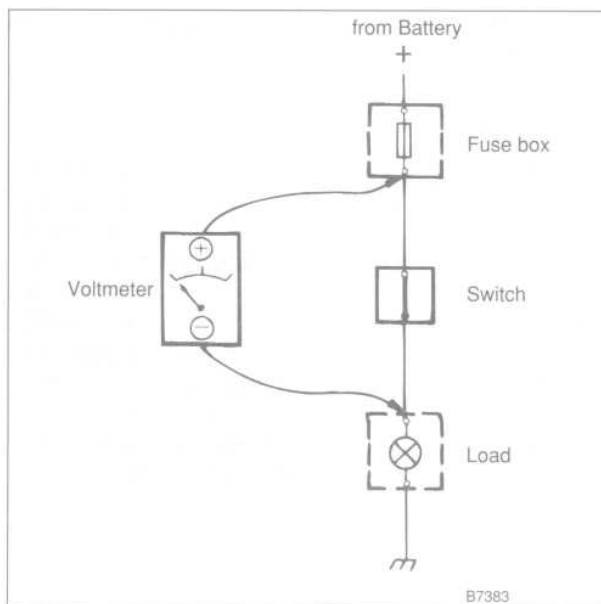

Fig. 2. Voltmeter being used to check for voltage drop.
2. Connect the voltmeter negative lead to the other end of the cable or switch being tested. See Fig. 2.